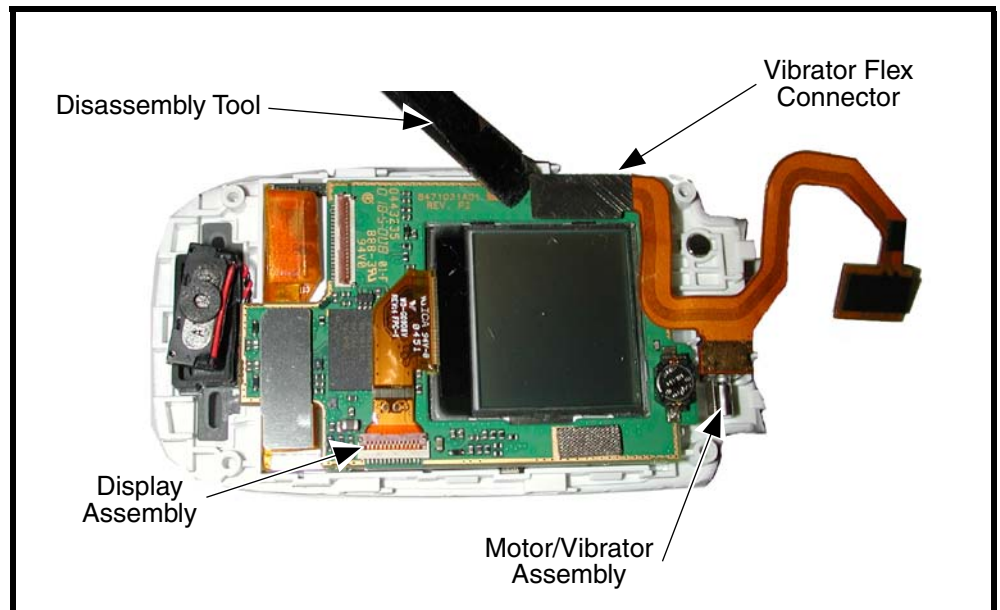

Figure 17. Motor/Vibrator Assembly Removal
3. Carefully lift the motor/vibrator assembly and flex from the display assembly (see Figure 17).